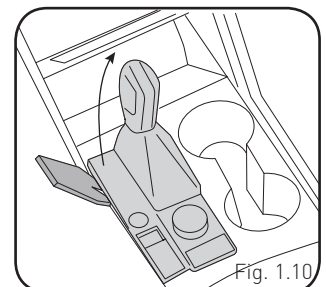

Fig. 1.10
9. Using a panel tool, pry outward on the trim panel around shifter. Disconnect the harness from the start/stop switch. (Fig. 1.10)